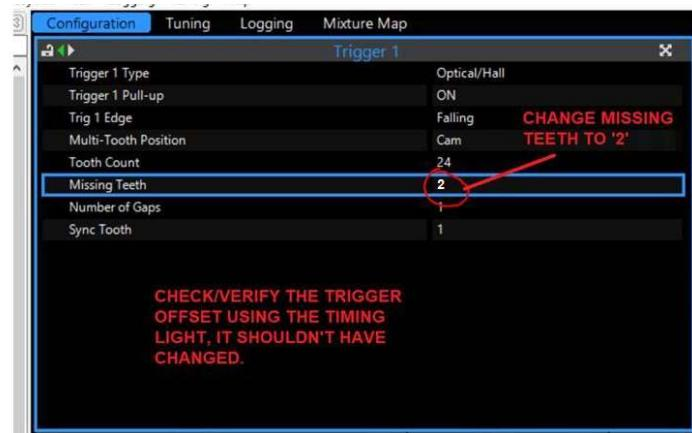

Figure 15 – 5-0 Ignite SR Cam Trigger V3 Sensor Pinout
10. Hardware installation is now complete. Assemble everything back together and perform the wiring. The wiring pinout is on figure 15 of this installation guide.